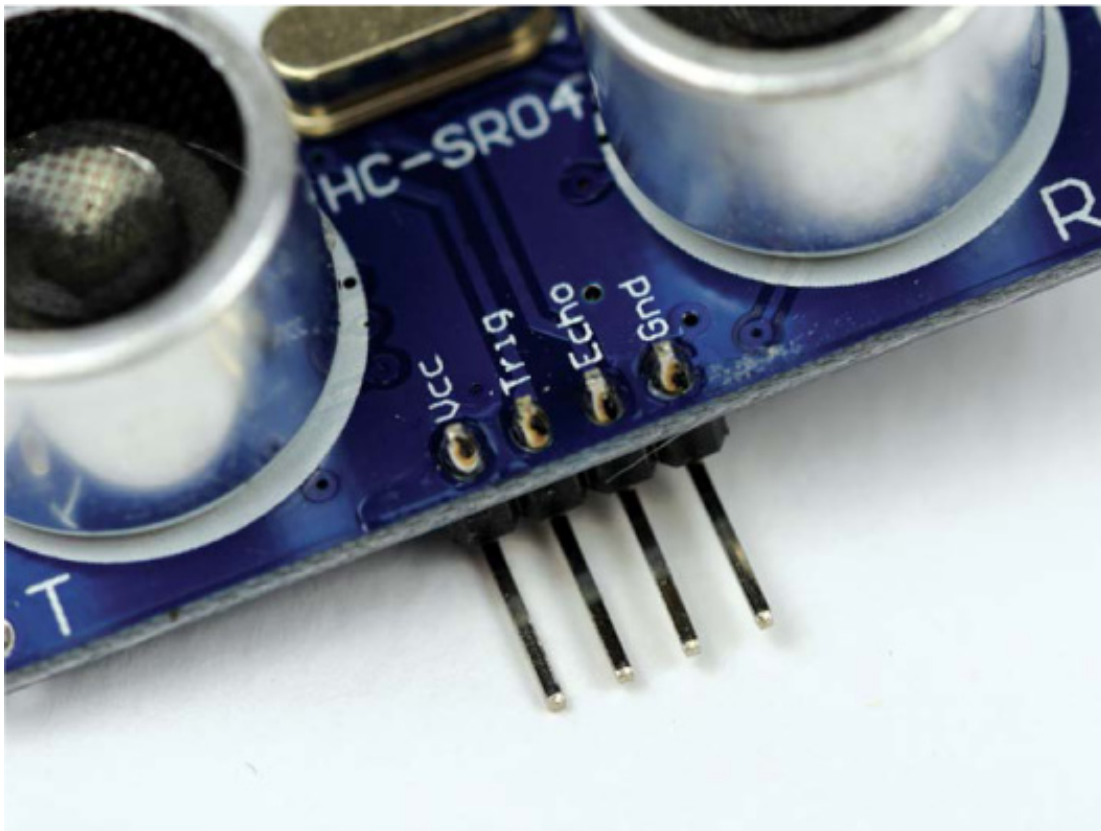

FIGURE 5-3 A close-up of the pins on an HC-SR04 module
Any digital system has two logic states: low voltage (0) and high voltage (1). This was first introduced in Chapter 4 when explaining PWM. Usually, the low voltage is just ground, 0 V; however, the high voltage can change from system to system. This means that some systems require a 5 V signal to trigger a high voltage, while others may require only 3.3 V, for example. This just so happens to be the situation we are in! The HC-SR04 requires 5 V, whereas your Raspberry Pi operates on 3.3 V logic. Notice in Figure 5-3 that there are four pins on the ultrasonic sensor: *Vcc* for power, *Trig* for the trigger pulse, *Echo* for the echo pulse, and finally *Gnd* for ground.